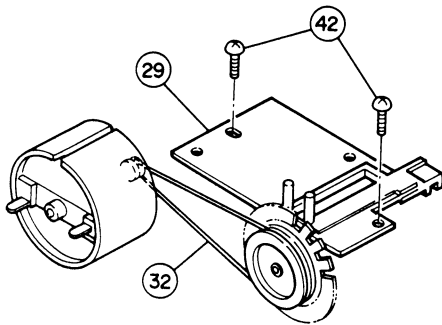

Figure 4
1. Remove belt (32), take out the 2 screws (42) that fasten the Bearing Assembly (29), and remove the Bearing Assembly as shown in Figure 4.